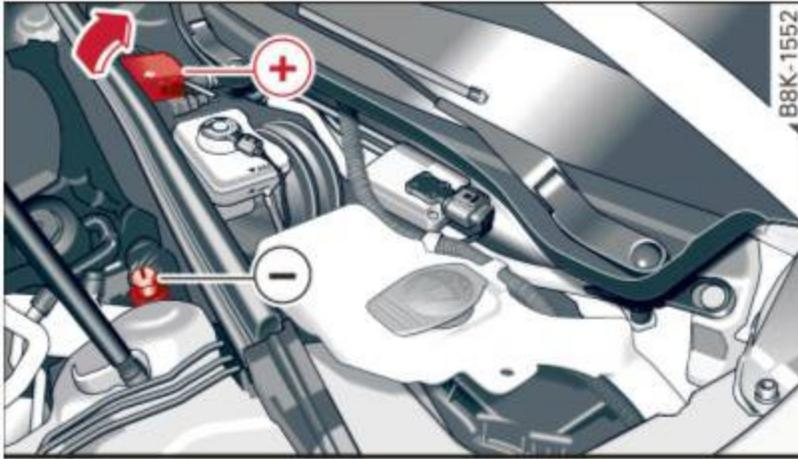

Fig. 189 Engine compartment: Connectors for charger and jumper cables
- ▶ Open the cover on the positive pole ⇒ fig. 189.